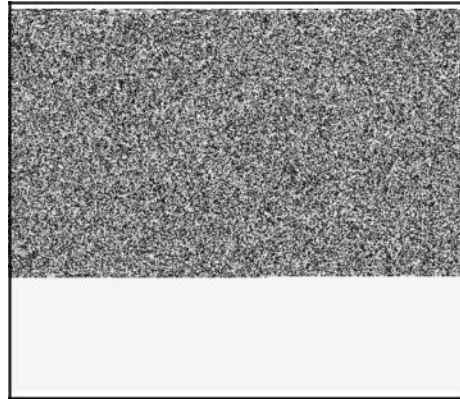

Figure 21
1. Loosen rocker arm screws and/or lock nuts, and remove from rocker arm studs. Remove rocker arms and rocker balls from studs (**A**, Figure 21).